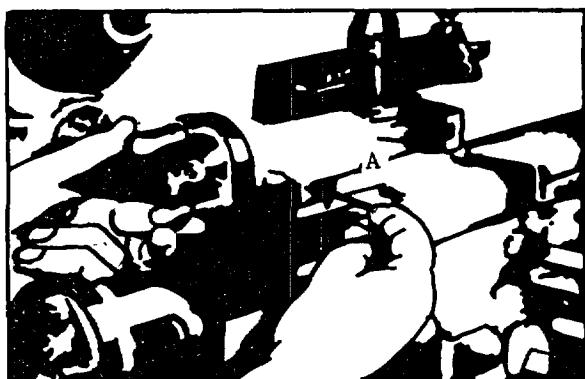

Fig. 25.
2. To make this adjustment, first be sure that the mating surfaces are clean and coated with a thin film of light machine oil. Then adjust the three hexagon socket cone pointed set screws (A) Fig. 25.